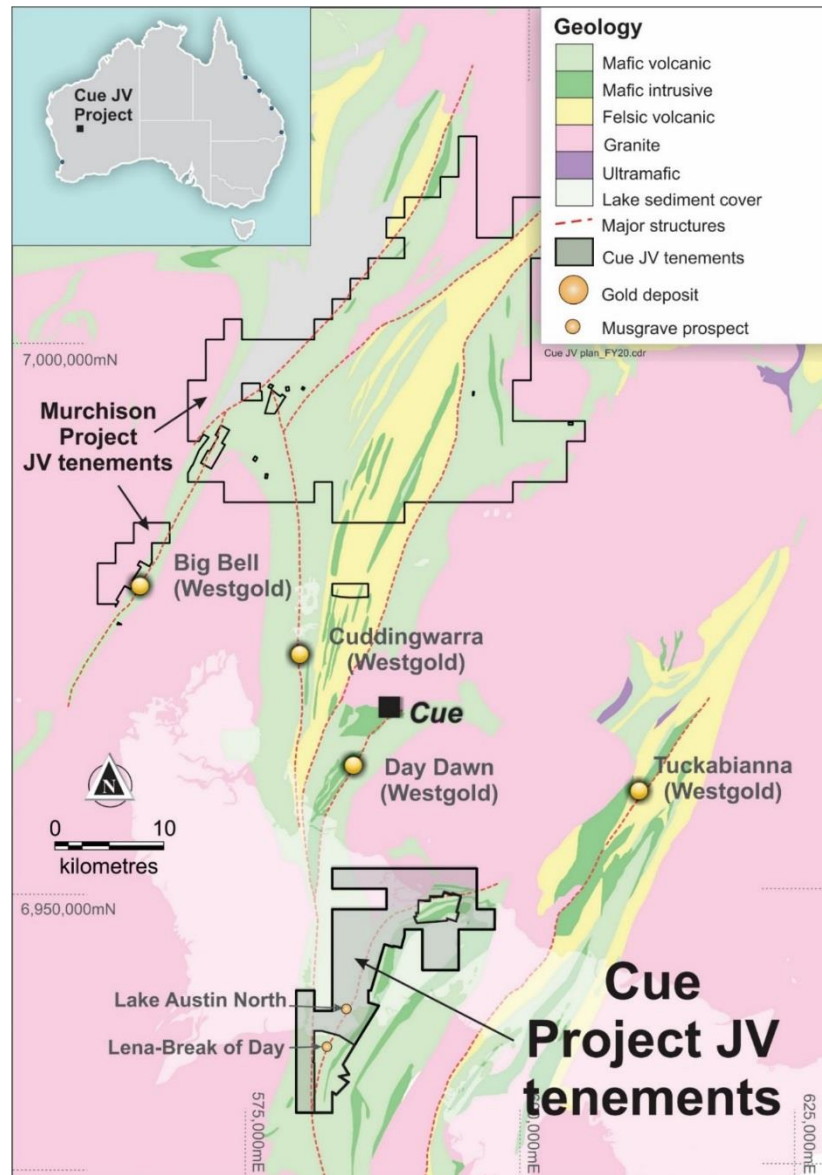

Figure 7: Location and geology of the Cue joint venture tenements
- Musgrave will retain 100% ownership of areas surrounding the Lena and Break of Day resources, and the Mainland Option area (Figure 7)
- Evolution may earn a 75% interest in the project area (Figure 7) by spending A\$18 million over a five-year period, with a minimum spend commitment of A\$4 million over two years